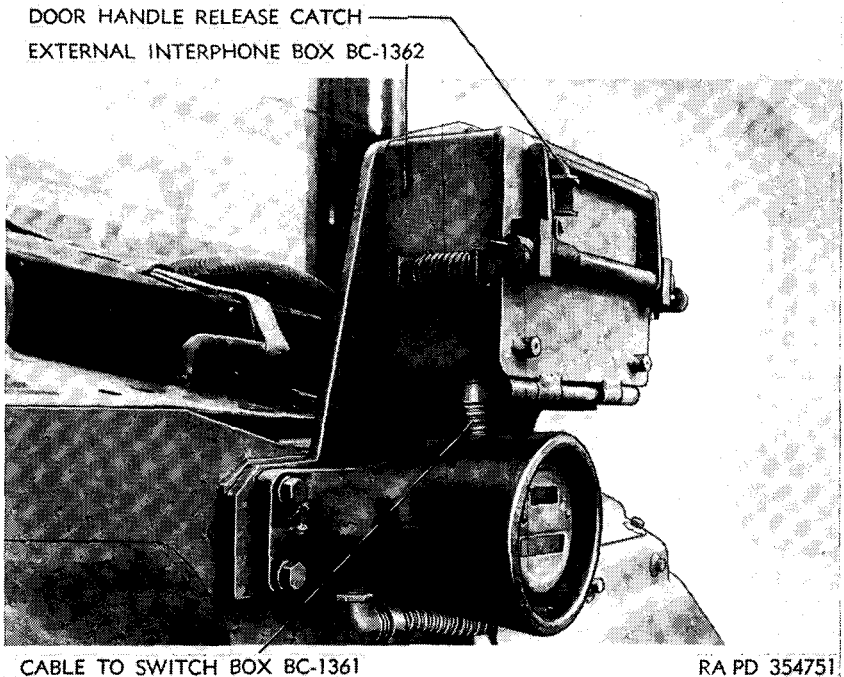

Figure 211. External interphone box BC-1362.
- (1) *External interphone box BC-1362* (fig. 211).
- (2) *Switch box BC-1361* (fig. 211).
- (3) *Cordage and flexible conduit.*
- (3) *External interphone box BC-1362* (fig. 211).